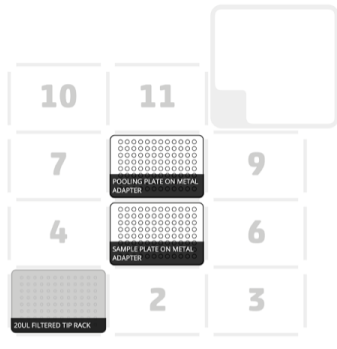

Figure 7. Deck map for Post 4 – Pooling protocol.
- g. Load labware onto the deck as shown in the deck map (also shown in Figure 7).